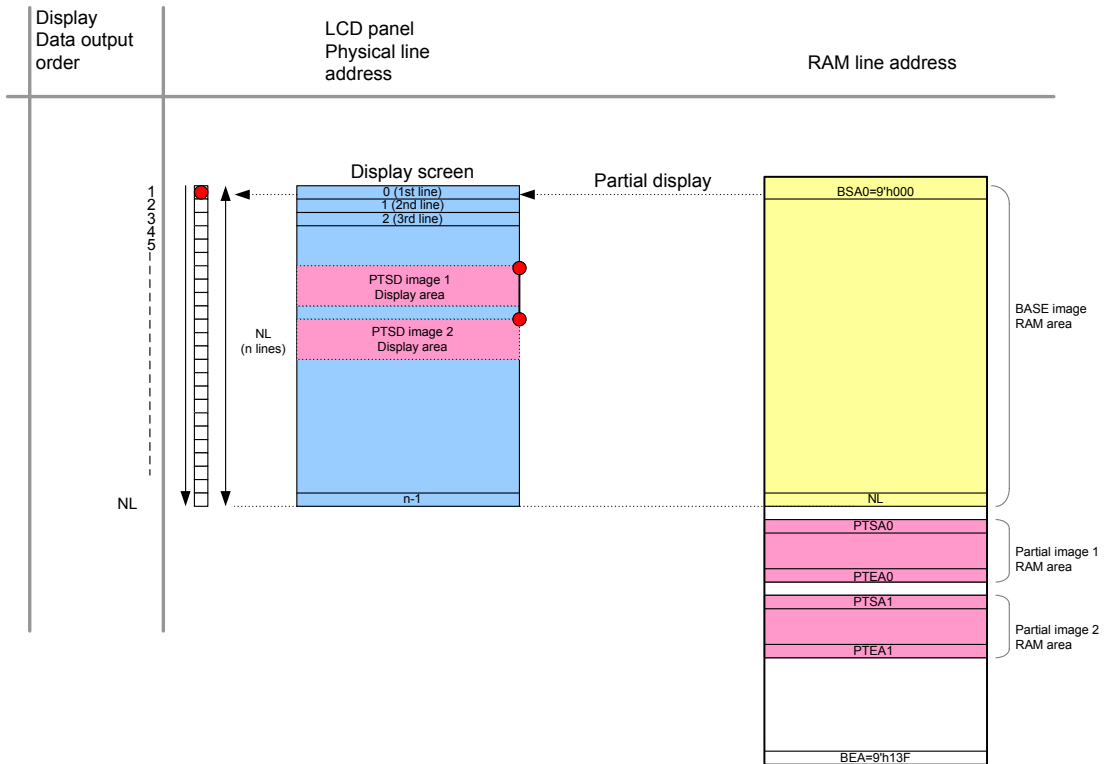

Figure 8-4 Example of NL[5:0] setting is < 6'h27 case
**Figure 8-4** indicated the case of NL[5:0] setting is < 6'h27 which active line is less than 320. Partial display image data can stored in not active area.